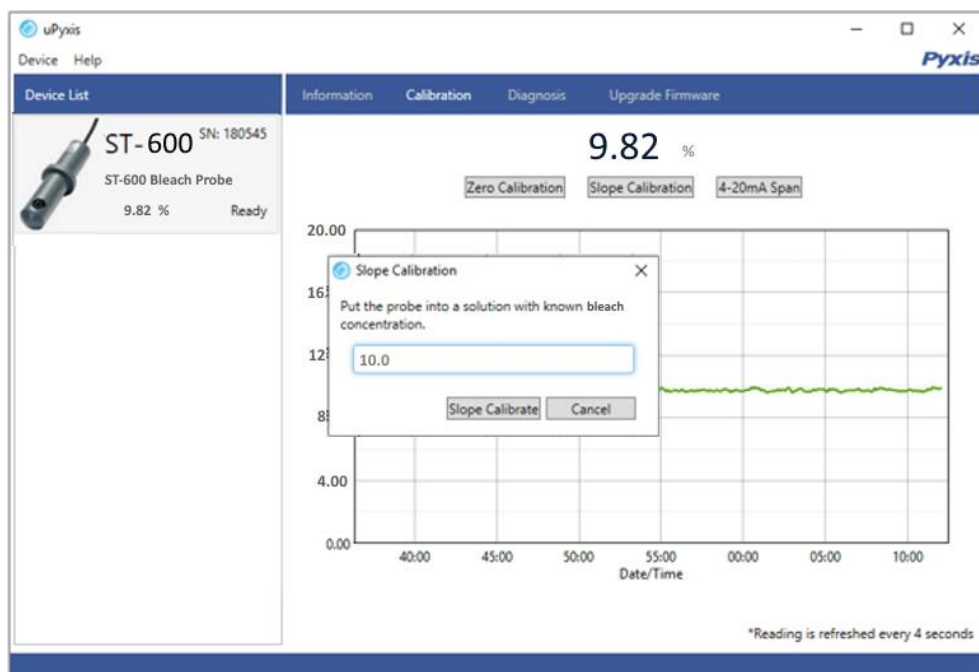

Figure 11. Enter Bleach concentration for slope calibration
4. Select the Comm Port to make a connection (Figure 11) (normally only one Comm port is identified by uPyxis. If more than one Comm port listed in the selection dropdown, you may try to select each one to see if a connection can be made. Alternatively, you may use the Windows Device Manager to identify the Comm Port that the Pyxis USB adapter is used.)